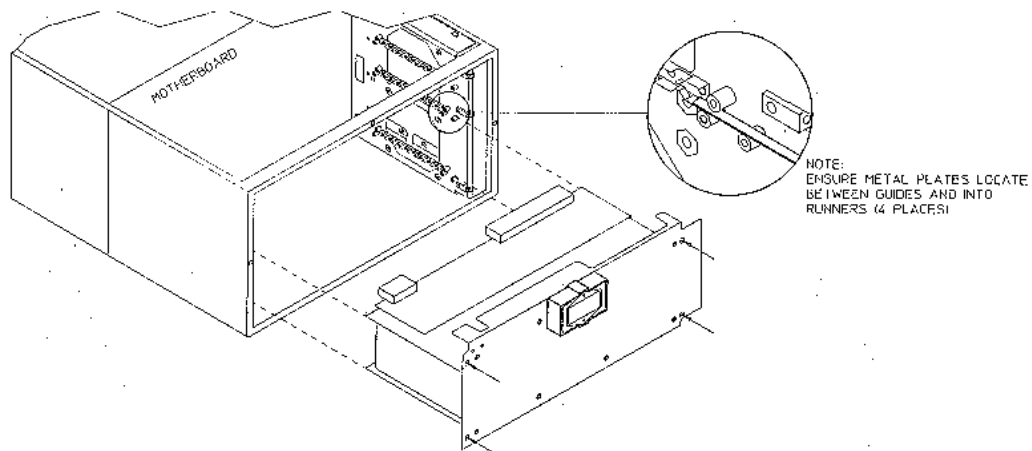

Figure 20
10. Install the new PSU module into the 70843A/B chassis, locating it as shown in FIG 20.